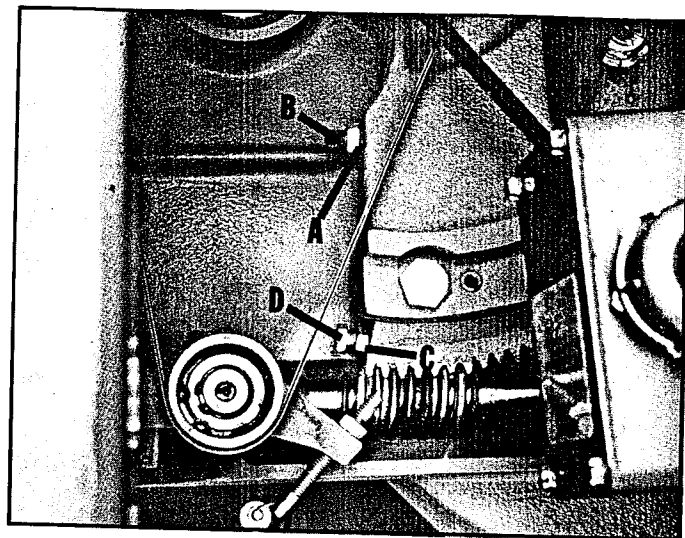

Fig. 61
1. To adjust the upper blade stop, loosen nut (A) Fig. 61 and turn screw (B). NOTE: The correct adjustment with a 10" blade is that the blade should be 3-1/8" above the table surface when the blade is all the way to the top.
2. To adjust the lower blade stop, loosen nut (C) and turn screw (D) Fig. 61. The correct adjustment is when a 10" blade is just below the table surface when the blade is all the way to the bottom.